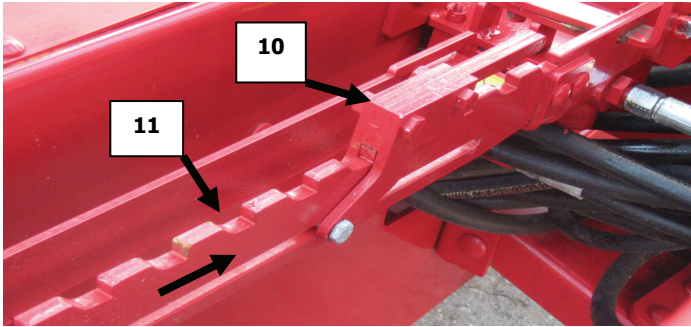

Figure 8.5 Stopper
8.6 → Place the part (Figure 8.5 #10) at the 7th slot from the rear of the machine (Figure 8.5#11).
- 3- Move part #10 (Figure 8.5) as far toward the front as possible.